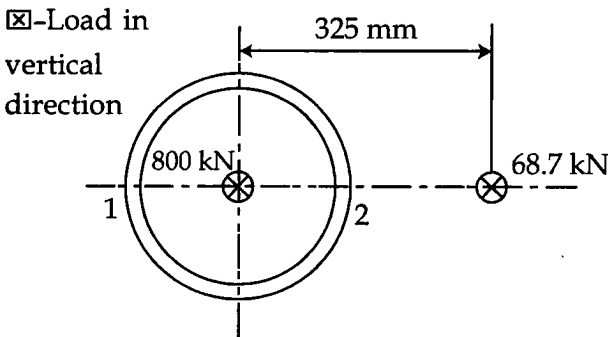

Fig. 5
5. A C.I column of 200 mm outside diameter and 160 mm inside diameter carries a central axial load of 800 kN and a load of 68.7 kN at 325 mm from the axis as shown in Fig. 5. If permissible stress in tension and compression for C.I are respectively  $31 \text{ N/mm}^2$  and  $121 \text{ N/mm}^2$ , check if the cylinder is safe. 14